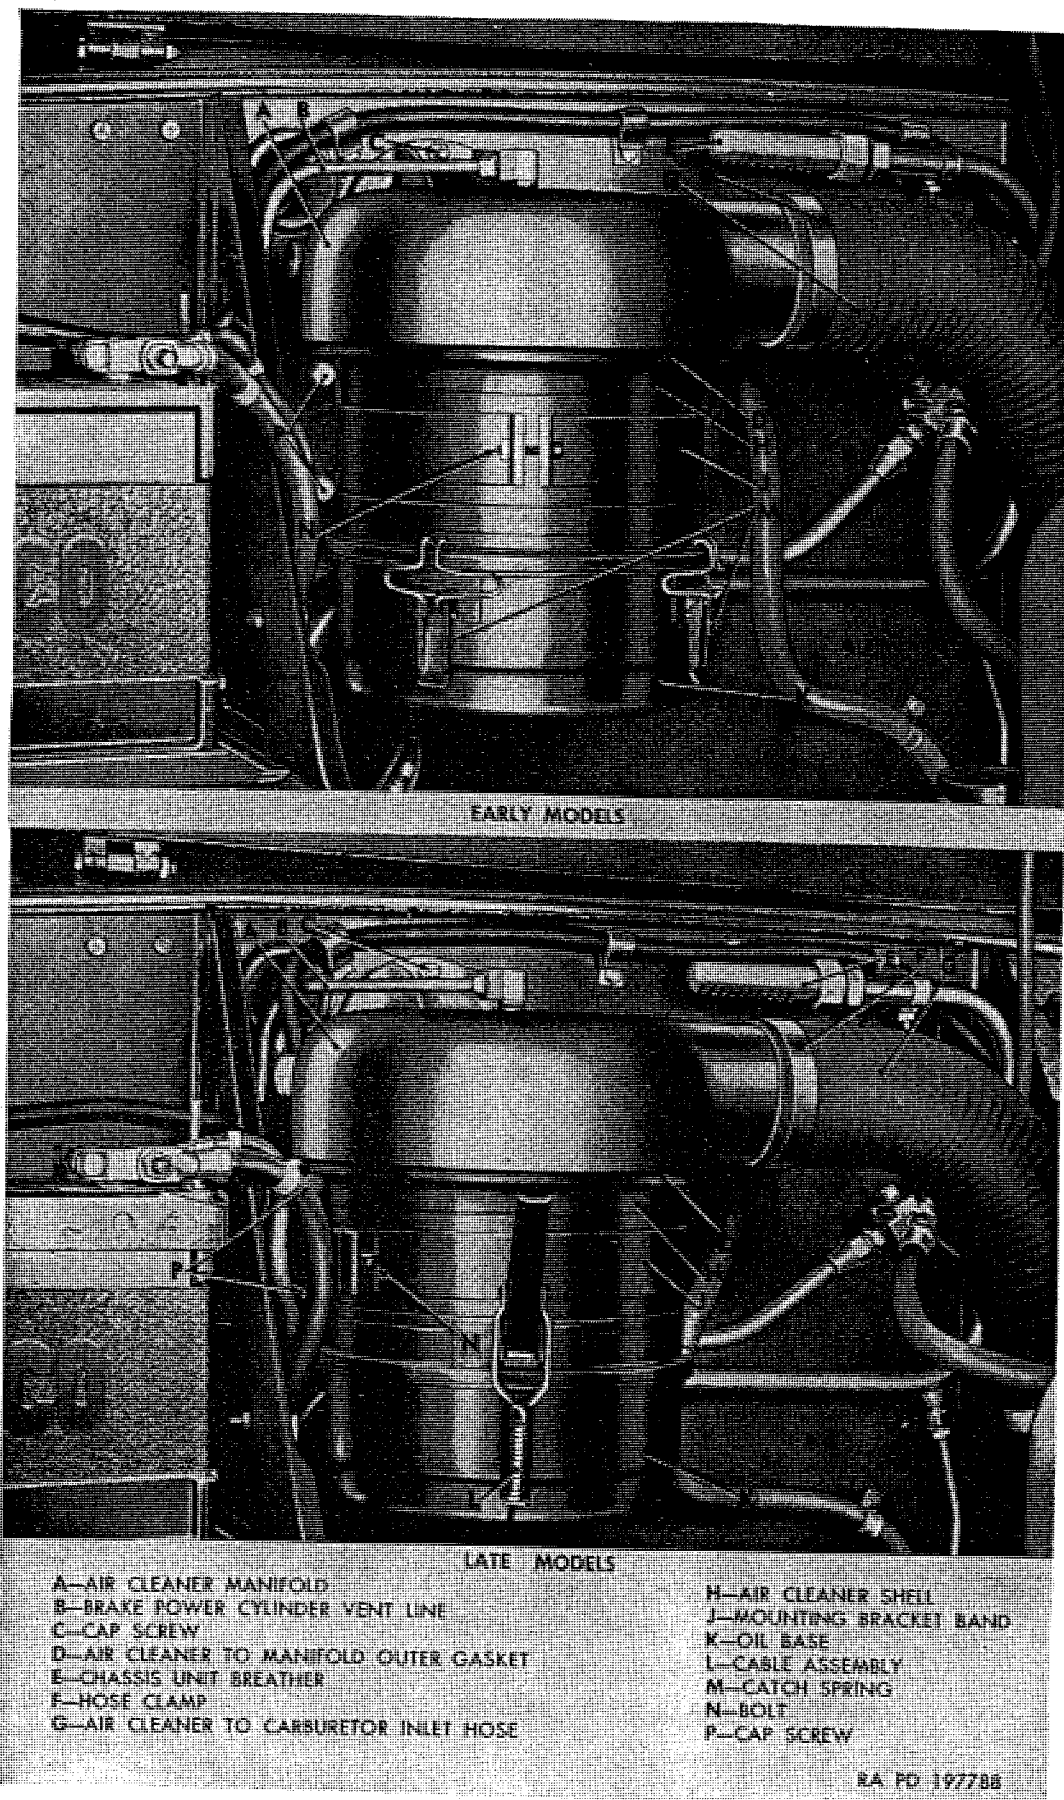

Figure 131. Air cleaner installed.
(fig. 131)
a. Description. All vehicles are equipped with a system of lines for venting various chassis units to atmosphere. Small lines connected to individual chassis units lead to larger line which is mounted at frame right side member. Another large vent line assembly is installed in engine compartment on cab dash panel, and is connected by flexible line to large vent line on frame. Vent line of dash panel opens into separate chassis unit breather (E, fig. 131) located near top front center of dash panel. Following is a list of units which are connected to vent system: rear rear axle, forward rear axle, transfer, fuel tank, transmission, front axle, and brake master cylinder. In addition to units mentioned above, engine flywheel housing and crankcase breather are connected to vent line on dash panel by flexible line attached to tee fitting near No. 6 spark plug and nipple on vent line at dash panel.
- (1) *Axle vent lines.* Hydraulic fluid lines and vent lines are attached to each axle assembly at a junction with threaded openings for attaching lines. Flexible lines supported at axle upper torque rods are used to connect axle air vent lines to fitting at frame.
- (2) *Air power cylinder vent line.* Vent line connects exhaust fitting on brake air power cylinder to vent line elbow on top of engine air cleaner manifold.
- (3) *Fuel tank and transfer vent line.* Vent line extends from top of fuel tank to fitting at frame. From frame fitting, line crosses transfer support cross member to converge with transfer vent line at tee fitting above right side of transfer. Sin-
- (4) *Brake master cylinder vent line.* Line from master cylinder extends forward along frame left side member to point below front of cab. Flexible line connects master cylinder vent line to vent line at front of dash panel.
- (5) *Transmission vent line.* Short flexible line connects vent fitting at right side of transmission with junction at large line on frame right side member.
- (6) *Flywheel housing and crankcase vent.* Only opening to atmosphere in engine crankcase is through breather pipe which has common connection with oil filler pipe. For normal operation, crankcase breather (on top of breather pipe) has two openings. One large opening admits air from engine compartment for crankcase ventilation. A second opening in breather is connected by line extending to tee fitting near No. 6 spark plug. Flexible line between tee fitting and vent line on dash panel serves to vent flywheel housing and crankcase breather.
d. Servicing Chassis Unit Breather. Chassis unit breather (E, fig. 131) is equipped with removable element which must be cleaned periodically.
- (1) Remove cleaner assembly from vent line.
- (2) Remove element from cleaner and wash all parts thoroughly in dry-cleaning solvent or volatile mineral spirits to remove all dirt.
- (3) Allow cleaning fluid to drain out of element; then dip element in light engine oil and allow excess oil to drain off.
- (4) Assemble cleaner and install on vent line.